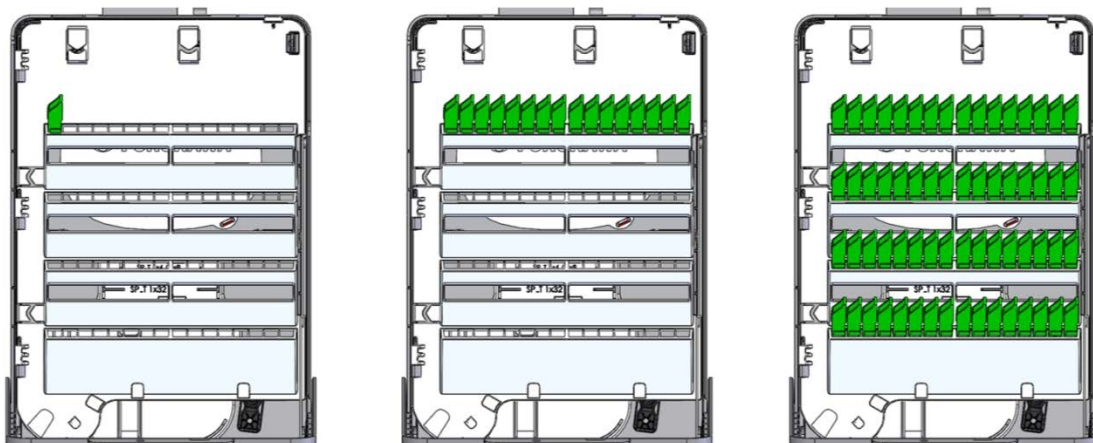

Figure 12
1.3.1 Install the adapter into position. Fill from left to right and top to bottom (Fig. 12).